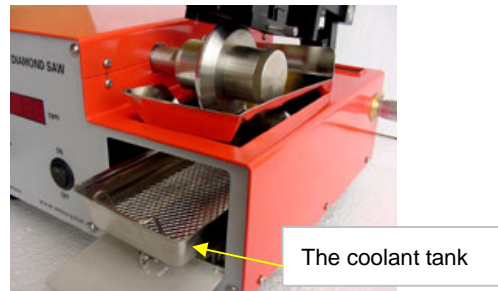

Figure 5
- Place lubricant (diluted to 30 part water with 1 part lubricant by volume) into coolant tank (Fig.5) until the lubricant covers approximately 10~15 mm (1/2") of the diamond wheel.